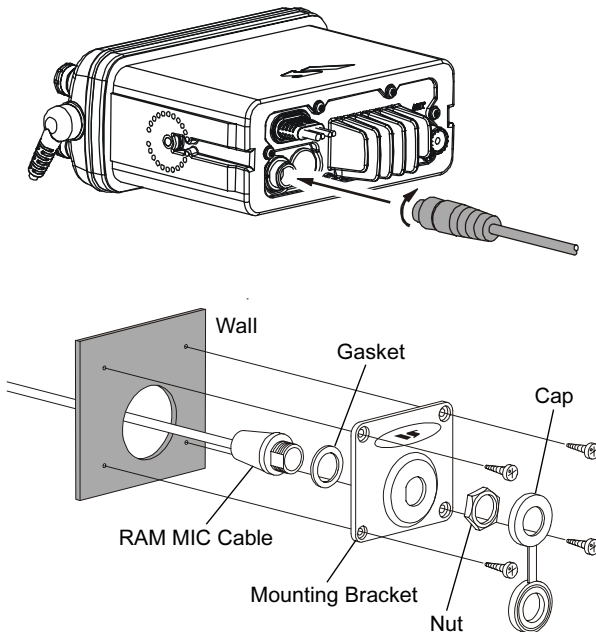

Figure 3. CMP25 RAM+ MIC Installation
1. Connect the RAM+ MIC Cable to the **RAM MIC CONNECTOR** on the rear panel, then tighten the Cable Nut (See Figure 3).
2. Referring to Figure 3, make a 1.2" (30 mm) hole in the wall, then insert the RAM+ MIC Cable into this hole. Connect the Gasket and Mount Base to the RAM+ MIC Cable Connector using the Nut.